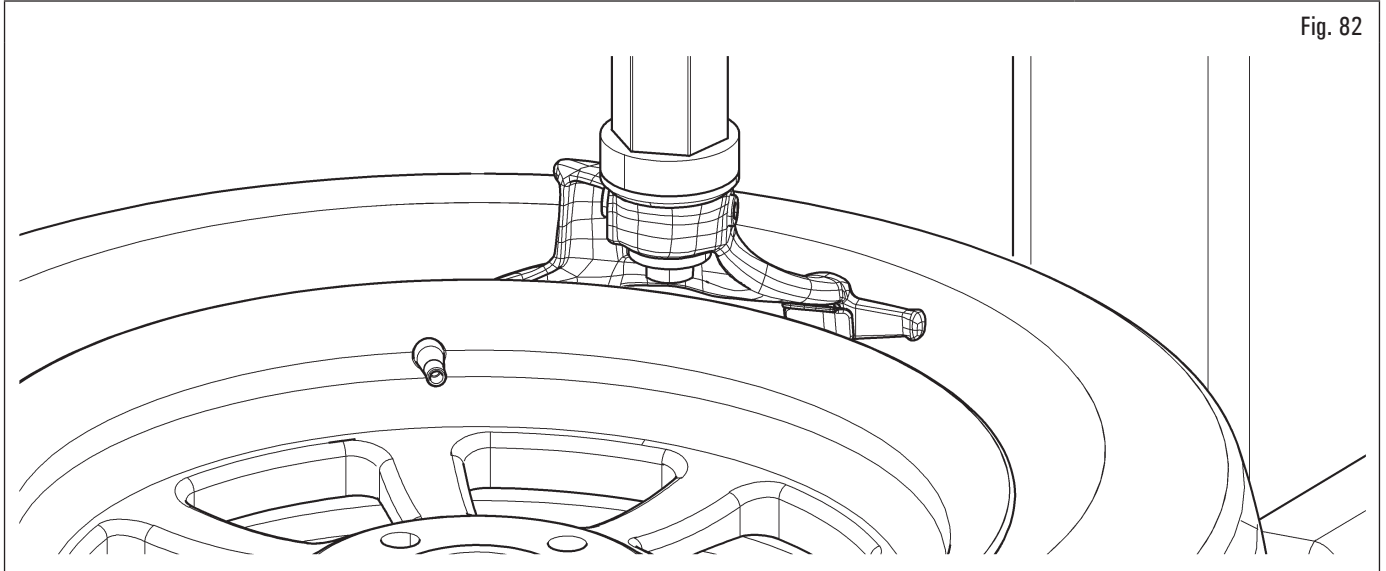

Fig. 82
2. rotate the chuck to bring the valve immediately to the left of the toolhead to "11 o'clock" position (Fig. 82);